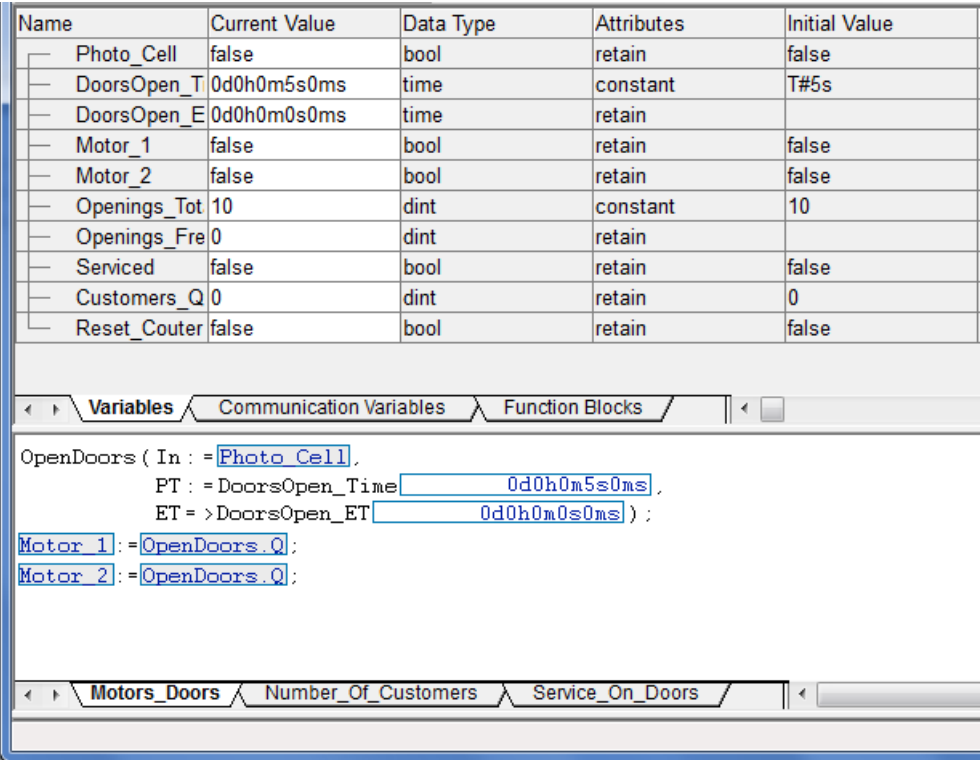

Figure 42. The Program2 editor in Test mode
5. Select **Motors\_Doors** tab. All variables in **Program2** are listed in the upper pane and the code in the lower pane, see Figure 42.